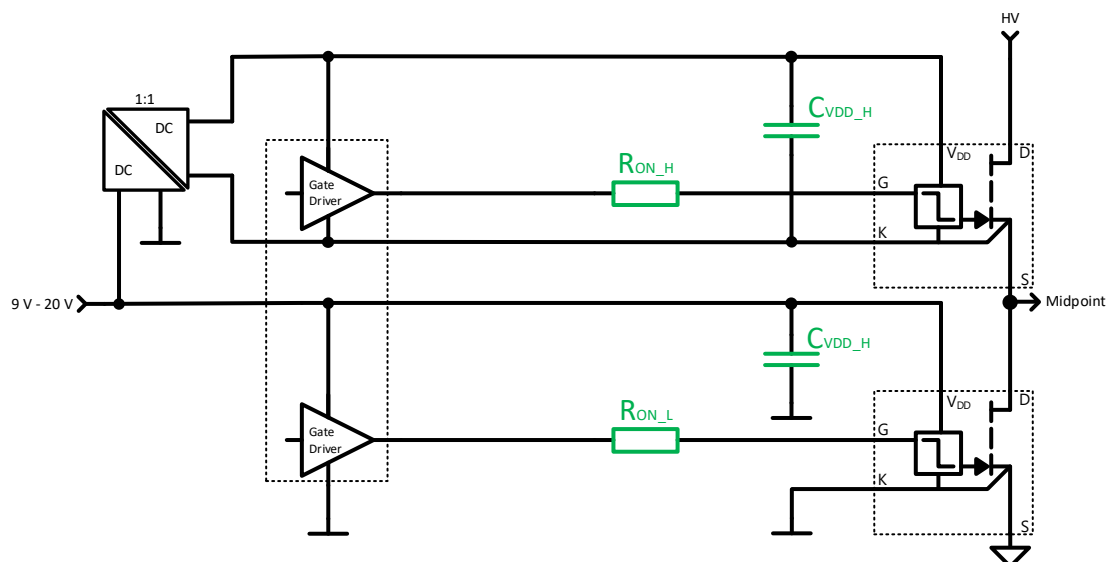

Figure 20 – External SMD components (in green) needed to drive ICeGaN in this EVB
Unlike other GaN HEMT alternatives, ICeGaN is very simple to drive. There is no need for negative drive or any additional requirements to use a special gate driver. Therefore, a standard MOSFET HB isolated gate driver IC is employed in this EVB. Each ICeGaN only requires two small SMD components; a capacitor between VDD and Kelvin pins, and an external gate resistor as illustrated in Figure 20.
2. Driving ICeGaN devices is very simple and cost effective. A standard HB driver and four SMD components are required, See Figure 20.